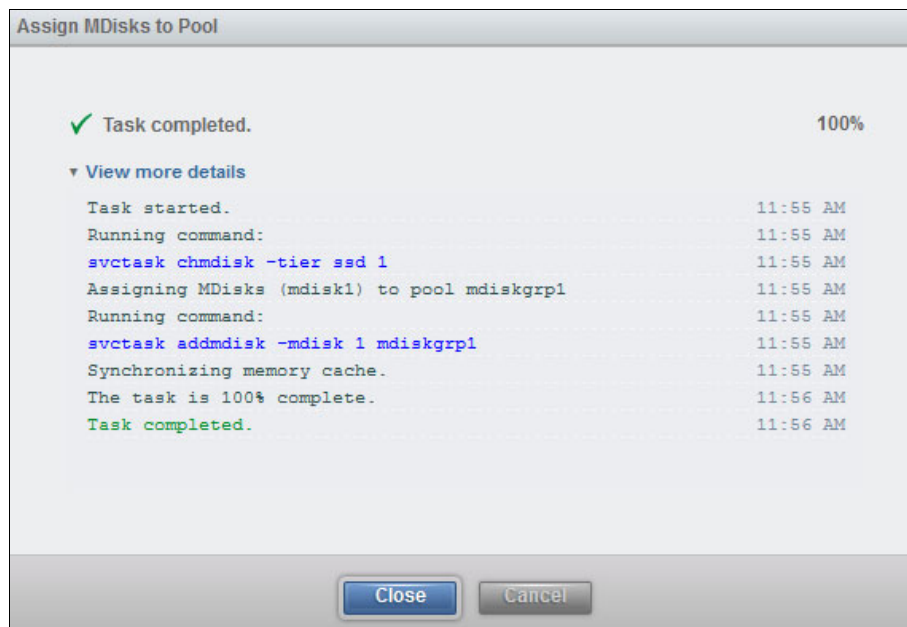

Figure 5-30 The new MDisk is added to the new pool
12. Figure 5-30 shows that the wizard added the new MDisk to MDisk pool mdiskgrp1. Click **Close** to complete the wizard.